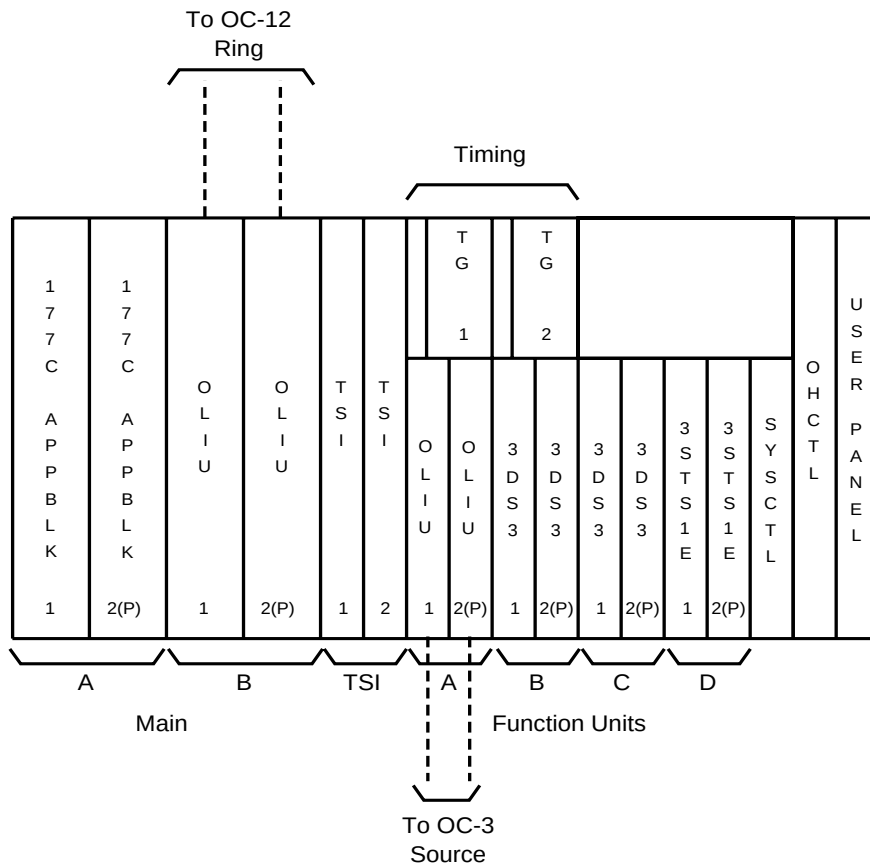

Figure 3-11. DDM-2000 OC-12 STS-3c Broadcast Shelf
Figure 3-11 shows a DDM-2000 OC-12 CO shelf equipped for an STS-3c broadcast application. This configuration uses a pair of OC-3cs provisioned for video. Each OC-3c is split and fed onto different rotations of the ring. There is no protection switching between the function unit circuit packs (unprotected). Each drop (RT) location can be provisioned to drop any or all of the STS-3cs to OC-3 or IS-3 circuit packs. Bandwidth on the ring, not provisioned for this application, can be used for other path-switched ring applications as shown in the figure with 6 DS3s and 3 EC-1s. This configuration also supports Locked STS-3c Broadband Services.